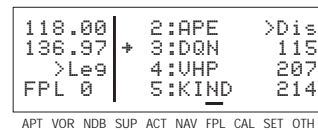

Figure 4-139
5. If you now turn back to the FPL 0 page, you will see that the active waypoint is now preceded by an arrow only, instead of the \downarrow symbol (figure 4-139). This is because there is no "from" waypoint in the flight plan.
This display will default to the distance presentation at power-on (figure 4-139). The area in the upper right hand corner of the screen is a cyclic field, which means that . . .